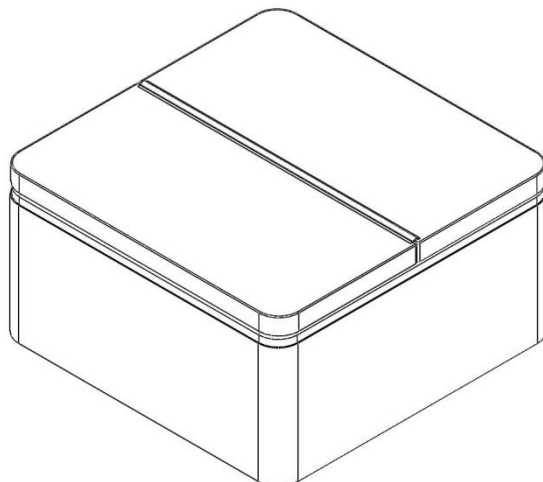

Figure 2
2. Position the spa cover (in the closed position) on the spa, making sure that all four corners are properly positioned and square on the spa. See Fig 2.